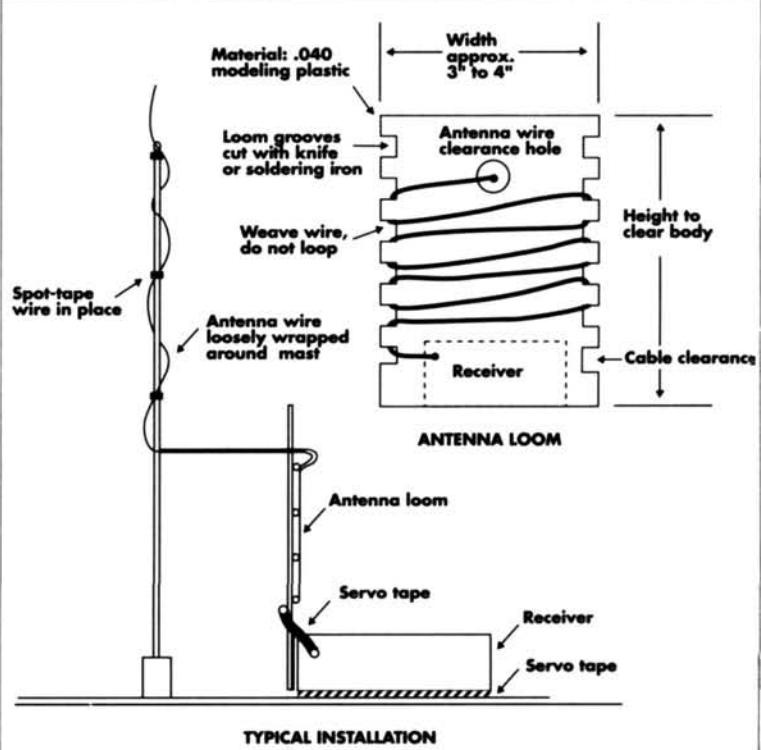

FIGURE 2
• **Improper routing of antenna** also desensitizes the receiver. Receiver manufacturers will often tell you explicitly in the instructions that the antenna must be kept away from the metal or graphite chassis because it's RF conductive. The antenna wire from the receiver should be routed from the receiver, up and away from the chassis and up the antenna mast. For long antennas, (which you will *not* cut), rather than wrapping all the lead around the antenna mast, build an antenna loom to take up the excess length. Figure 2 shows a simple loom that neatly holds the extra wire in place. Note that the wire isn't looped over itself. Make the loom from a sheet of modeling plastic, or you could even use cardboard. However the